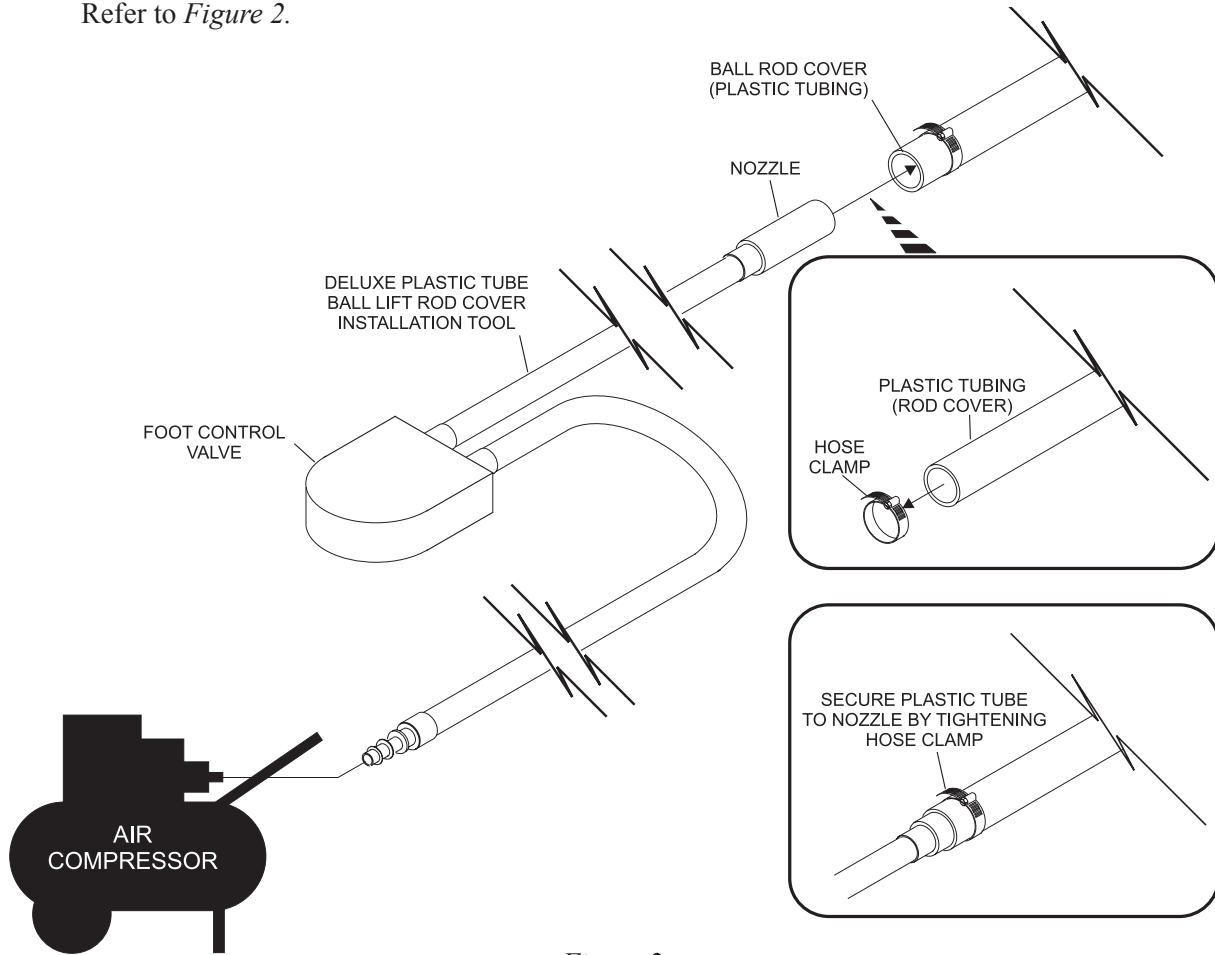

Figure 2
- Slide hose clamp onto plastic tubing and insert rod cover installation tool nozzle into plastic tube. Refer to *Figure 2*.
- Secure plastic tube to nozzle using a hose clamp. Refer to *Figure 2*.
- Connect rod cover installation tool to air compressor. Refer to *Figure 2*.